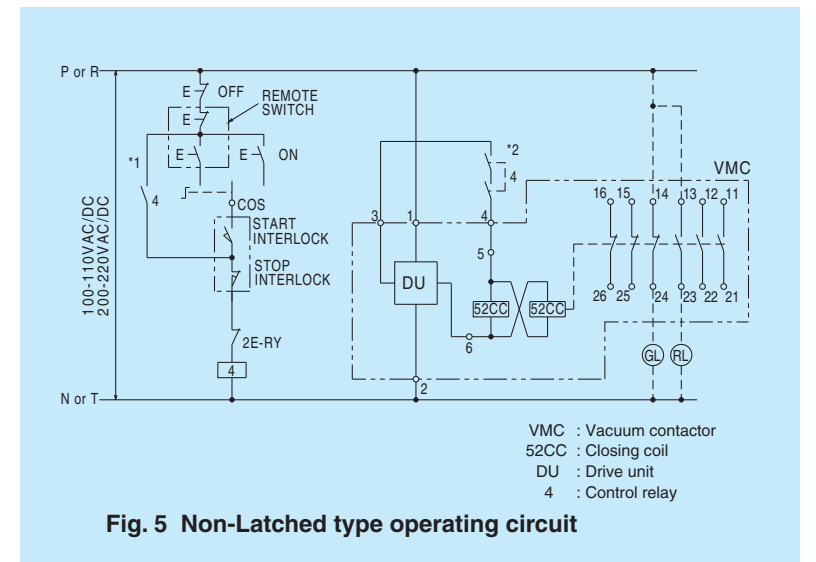

Fig. 5 Non-Latched type operating circuit
The typical operating circuit is shown in Fig. 5 indicating type CV-6GA/6HA contactor. Make sure to use the "NO" contacts of quick operating relay (4) self-holding circuit. Do not use the "NO" auxiliary contacts of vacuum contactor, this may cause the welding of main contacts when the start (ON) button is pushed incompletely. (refer to the marked 1 in figure) Make sure to switch the closing coil on DC side. Should the coil be switched on AC side, a discharging circuit will be formed by rectifiers against coil, resulting in prolonged opening time. (refer to the marked 2 in figure)